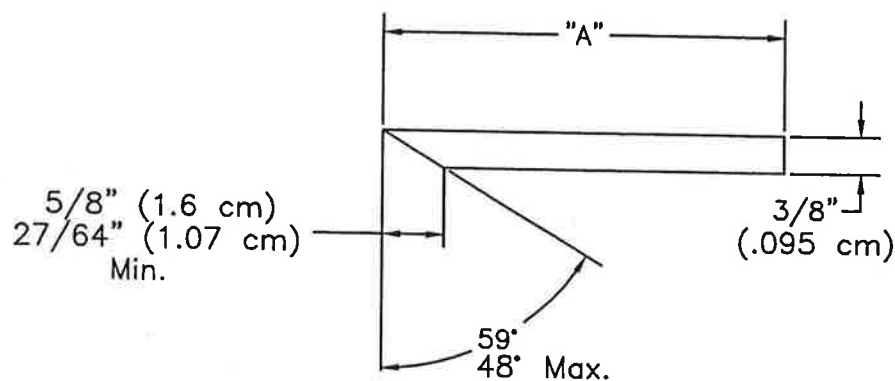

Figure 5
- f) Lay the knife on the knife shelf. Insure the knife is installed with the cutting angle edge facing down as shown in Figure 5. Install loosely the two outer, and the middle knife mounting bolts. Tighten the mounting bolts just enough to hold the knife in position while still allowing it to be moved.